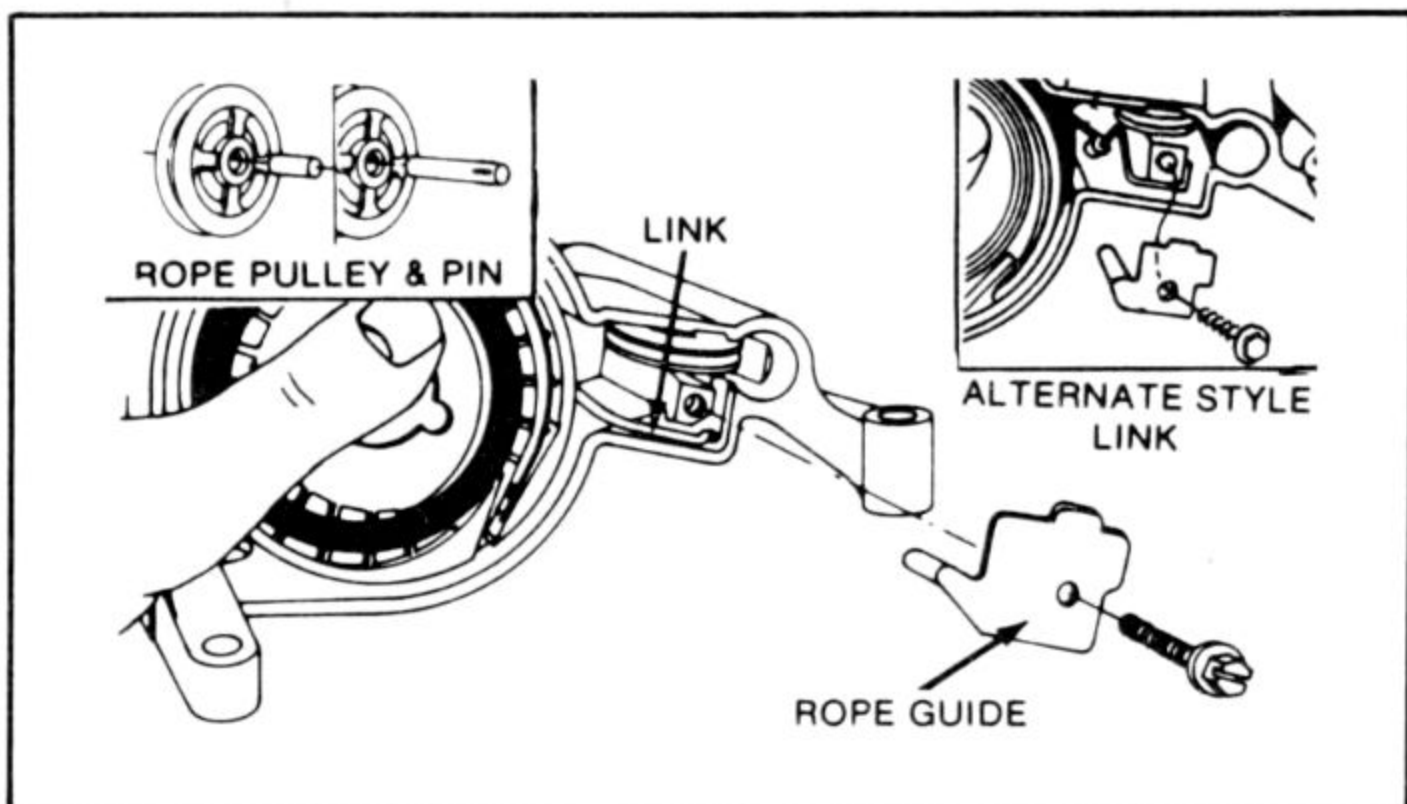

Fig. 4-21. Observe friction link orientation for assembly.
5. Separate the sheave and pin (Fig. 4-21). Observe the link orientation.